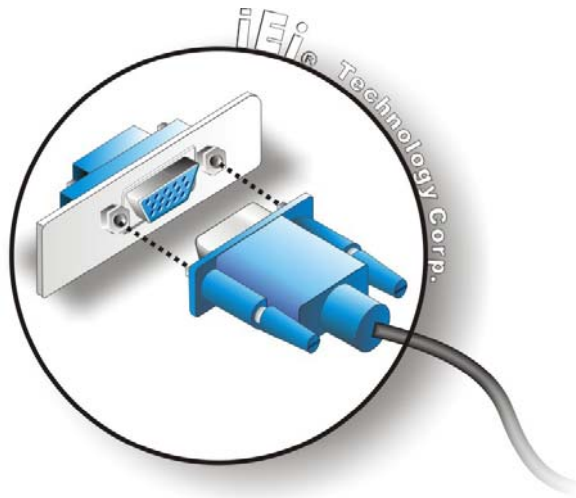

Figure 4-12: VGA Connector
Step 3: Insert the VGA connector Once the connectors are properly aligned with the insert the male connector from the VGA screen into the female connector on the POC-965 Series. See **Figure 4-12**.